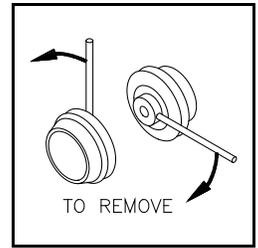

Figure 8.
- 7.4.2 To remove a pulley, insert a **AS505 PULLEY WRENCH** (7/64" diameter rod) into the hole behind the pulley and turn the pulley counterclockwise (as you face the flat side of the pulley). You will have to remove the pulley wrench and insert it into the opposite hole every half turn. See Figure 8.